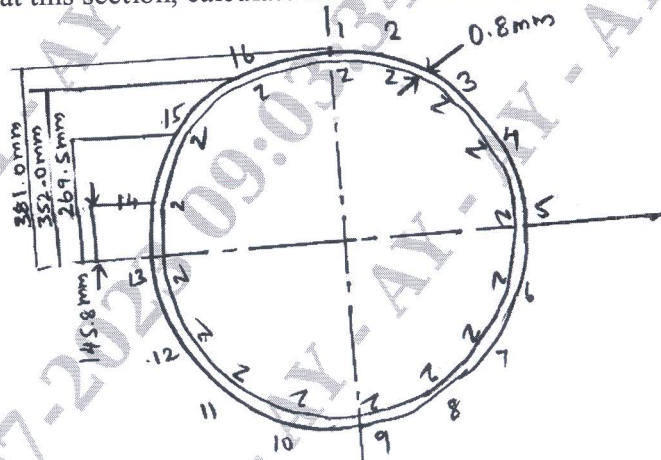

Fig. Q10 (b)
b. The fuselage of a light passenger carrying aircraft has the circular cross section shown in Fig. Q10 (b). The cross sectional area of each stringer is  $100 \text{ mm}^2$  and the vertical distances given in Fig. Q10 (b) are to the mid-line of the section wall at the corresponding stringer position. If the fuselage is subjected to a bending moment of  $200 \text{ kNm}$  applied in the vertical plane of symmetry, at this section, calculate the direct stress distribution.